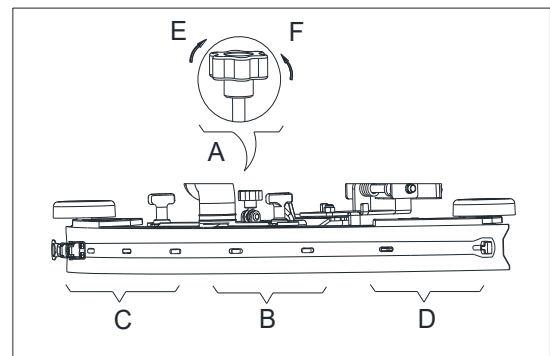

Figure 9
3. Adjust the squeegee by squeegee adjusting handle (A, Figure 9).
- a) If there is gap between the ground and middle section of rear squeegee blade (B), adjust the knob (A) in counterclockwise direction (F) until all section of rear blade good touches with the ground, the front blade touch the ground slightly.
- b) If there is gap between the ground and both end section of rear squeegee blade (C and D), adjust the knob (A) in clockwise direction (E) until all section of rear squeegee blade good touch with the ground, the front blade touch the ground slightly.